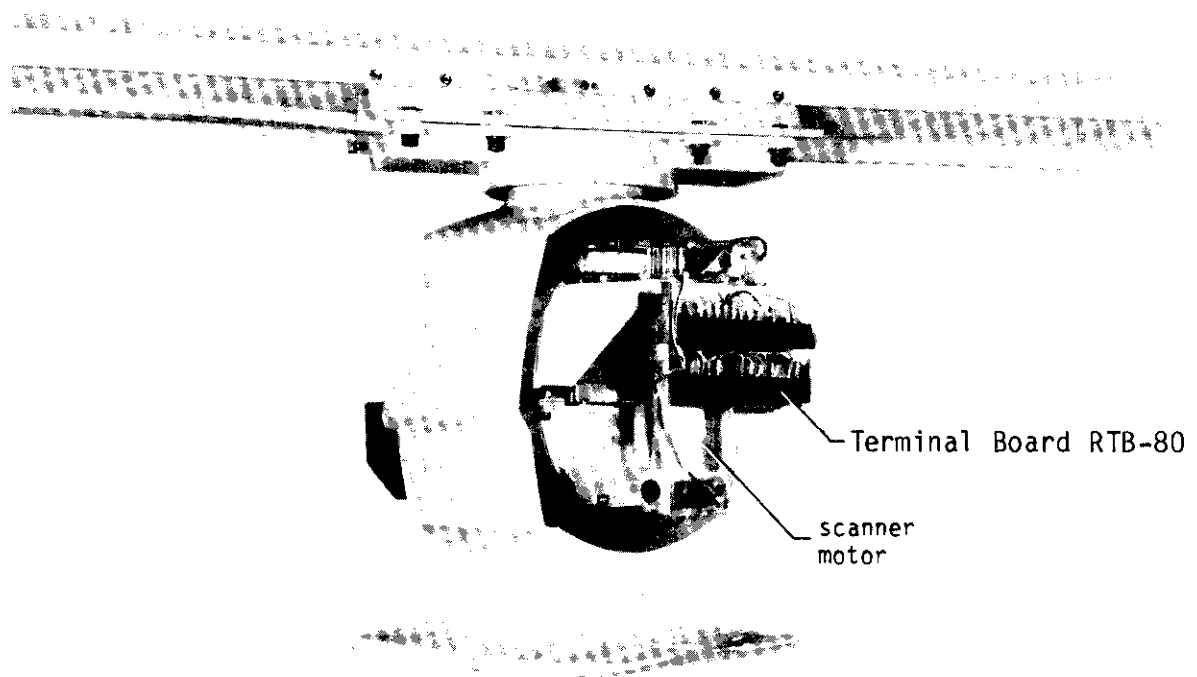

Fig.5-7 Location of Terminal Board RTB-801
13. Connect the lead wires to terminal board RTB-801, referring to Fig.5-7 and the interconnection diagram on page 5-12. The inner shield of the multicore cable should be connected to the ground terminal on the RF transceiver module. Replace the scanner housing covers after completing the next section.